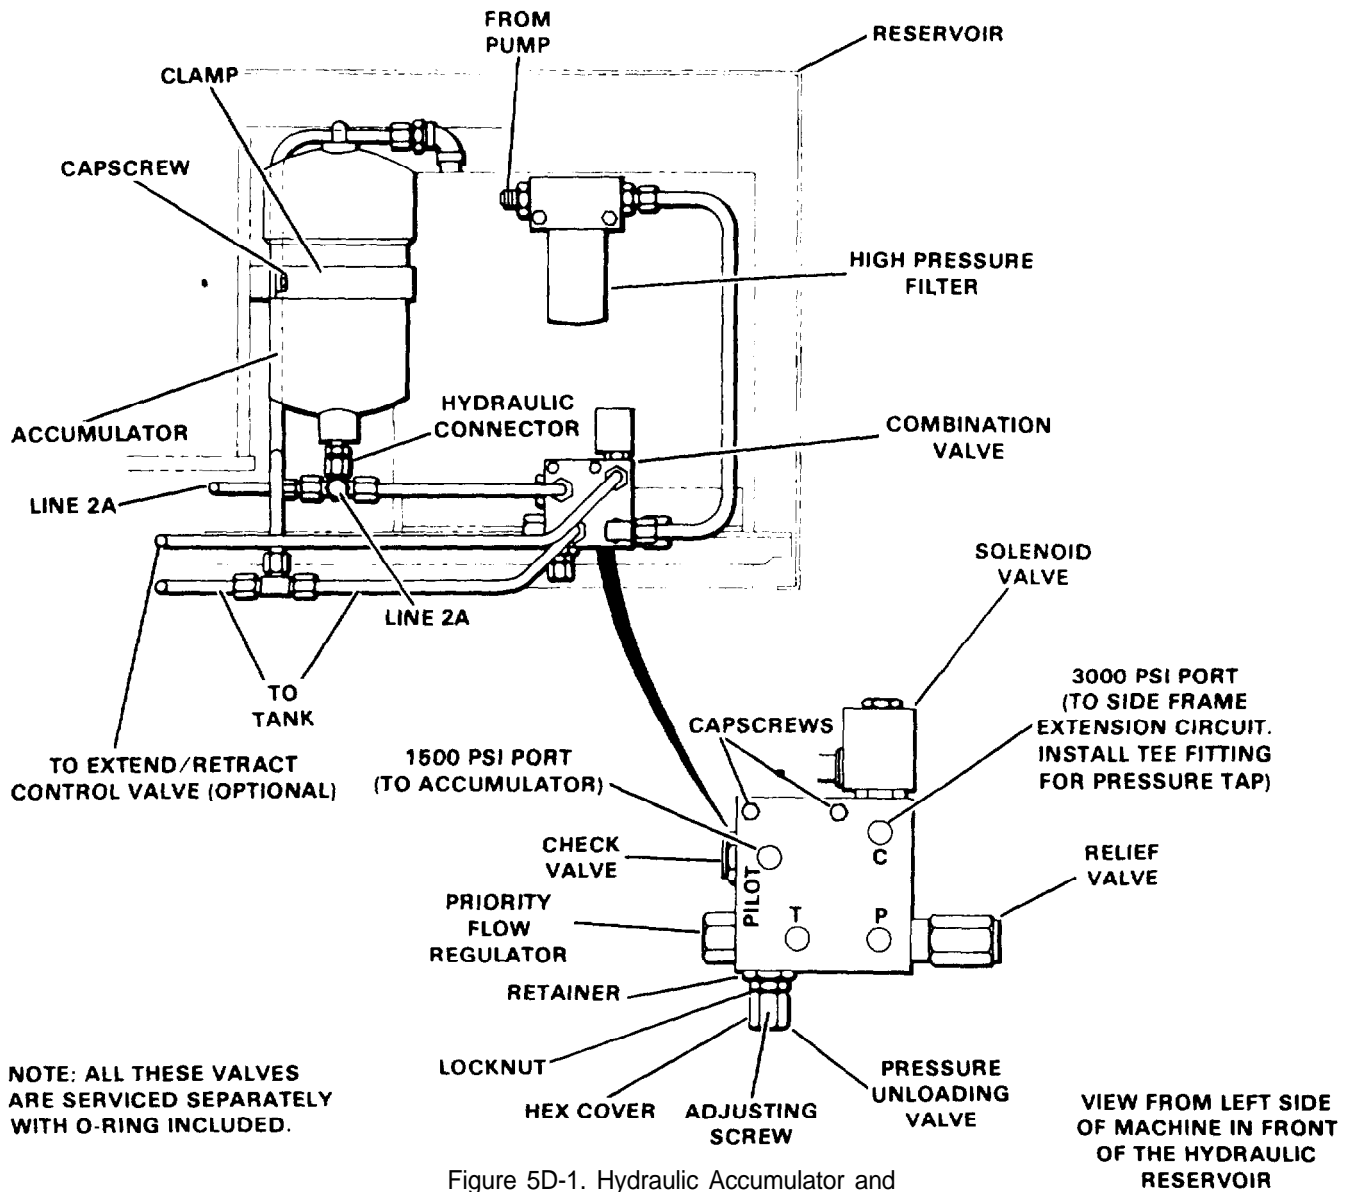

Figure 5D-1. Hydraulic Accumulator and Combination Valve Installation
5. Install a pressure gauge in the pressure gauge port of the tee fitting installed as shown in the insert of Figure 5D-1.
5. If the valve does not maintain the pressure as stated in step 4, remove the hex cover and adjust as follows (see Figure 5D-1 insert):